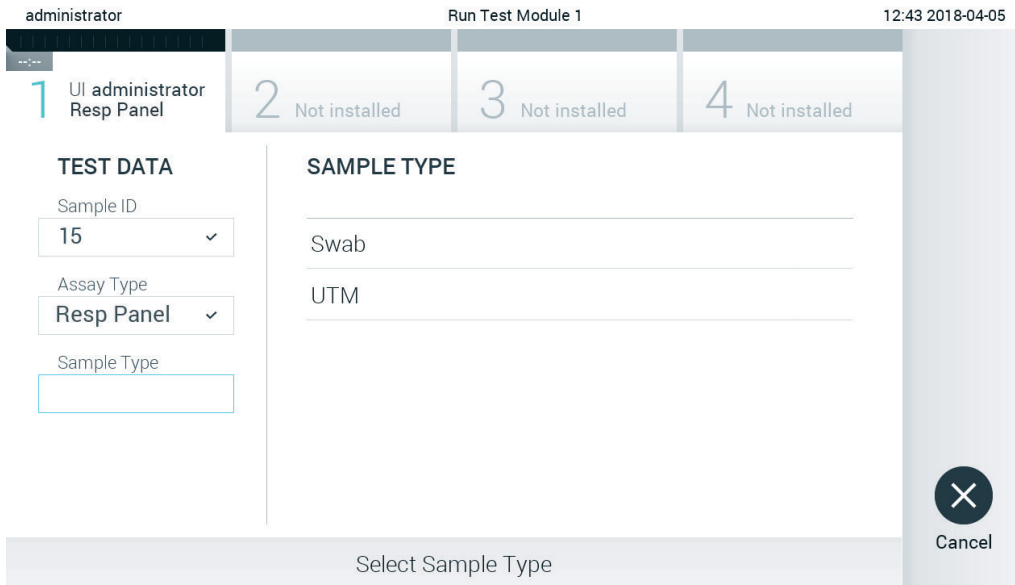

Figure 75. Selecting sample type.
- The **Assay Type** field will be automatically entered and, if required, an appropriate **Sample Type** must be manually selected from the list (Figure 75, next page).